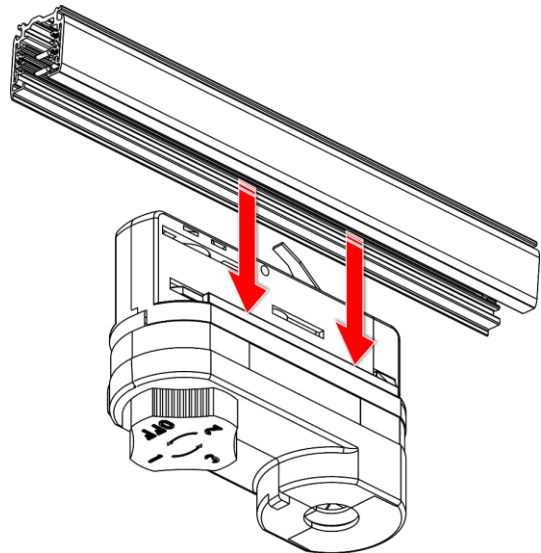

Fig. 18
- 05) Pull the **track adapter (01)** from the track (see Fig. 18).